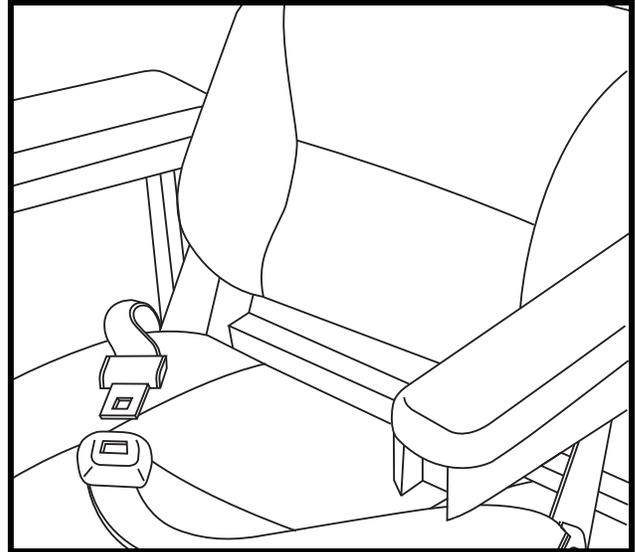

Figure 21. Positioning Belt
Your scooter seat may be equipped with an auto-type positioning belt that can be adjusted for operator comfort. See **figure 21**. The positioning belt is designed to help support the operator so that he or she does not slide down or forward in the seat. The positioning belt is not designed for use as a restraining device.
1. Insert the metal tab on the right side of the belt into the plastic housing on the opposite strap until you hear a “click.” See **figure 21**.